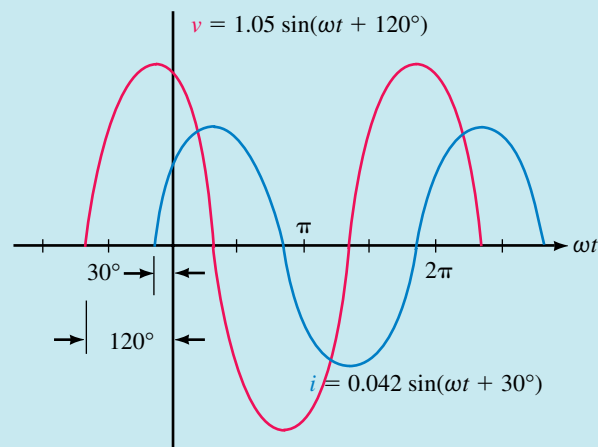

FIGURE 18-10 Sinusoidal voltage and current for an inductor.
- Figure 18-10 shows the sinusoidal waveforms of the voltage and current.